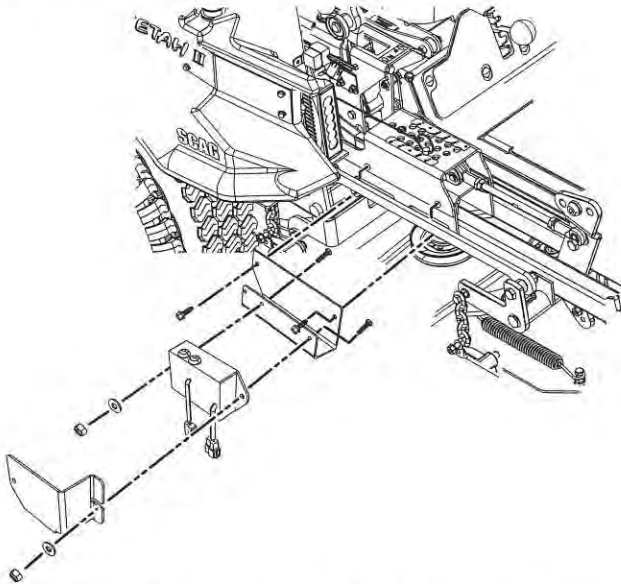

Figure 3-36. Installing SCZII RF Module Mounting Bracket
2. Install the RF control module mounting bracket to the cutting height bracket using the 5/16-18 x 1 1/4" bolts removed in step 1. See Figure 3-36.
- Secure the RF control module and guard to the mounting bracket using two 1/4 - 20 x 1" bolts, two 1/4" flat washers, and two 1/4" - 20 elastic stop nuts. See Figure 3-36.